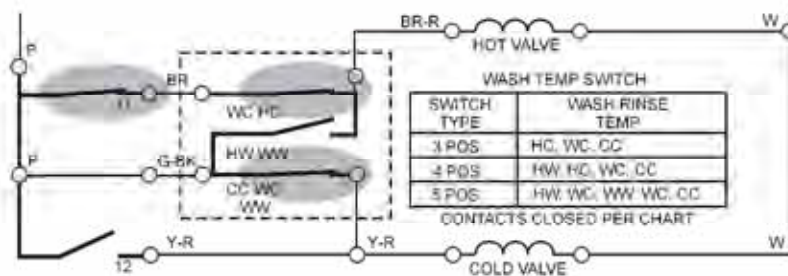

Fig. 3-1
- Control the temperature of the wash and rinse water by setting the water temperature switch. The water temperature switch is identified by the dotted box in Fig. 3-1. The wash temp switch chart indicates three possible switches, depending on the model washer being used. The switch letters in the chart, H W and C are the possible water temperature selections, Hot, Warm, and Cold. The first letter is the wash temperature, the second letter is the rinse temperature.